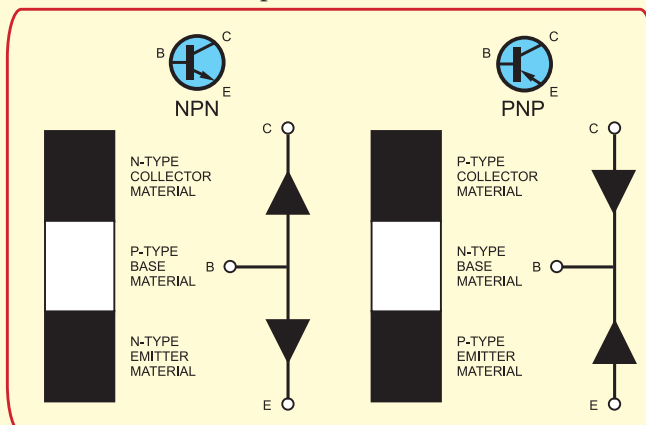

Fig.1.6: Symbols for bipolar transistors, and their representation as two coupled diodes
The circuit symbols for these two transistors are shown in Fig.1.6 and identify the emitter (E), base (B) and collector (C) terminals. Thus, *NPN* and *PNP* transistors can be considered as comprising two diodes connected as shown. Once you have this structure in mind, you can identify whether a transistor is *NPN* or *PNP* by using the Circuit Tester, as you did for the LED above.